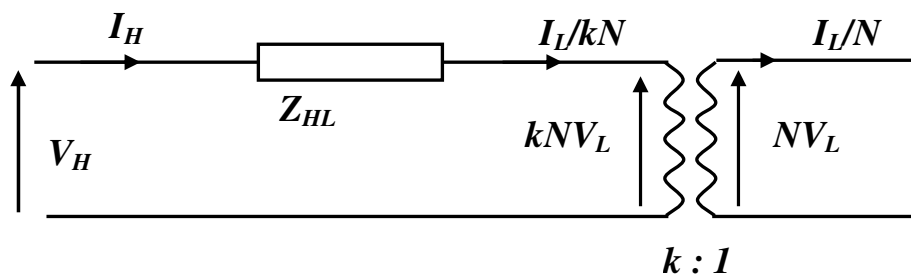

Figure B1.1
- a. (i) Describe why electrical power systems require protection. (1)
- (ii) Draw a diagram showing the key components of a simple protection system and briefly describe their function. (3)
- b. Sketch a diagram showing the main components of an induction relay and explain its operation. (3)
- c. Explain why tap changing transformers are used in a power system and describe the difference between an off-load and an on-load tap changing transformer. What is meant by an “off-nominal transformer”? (3)
- d. Figures B1.1 and B1.2 show a per-phase circuit of a tap-changing transformer and an equivalent ‘ π ’ network respectively. By consideration of the no-load voltage transformation ratios and short circuit impedances, show that the parameters A, B and C may be represented as: (3)